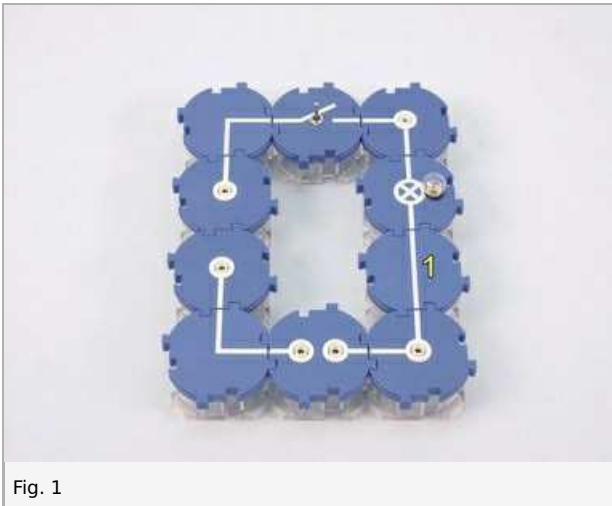
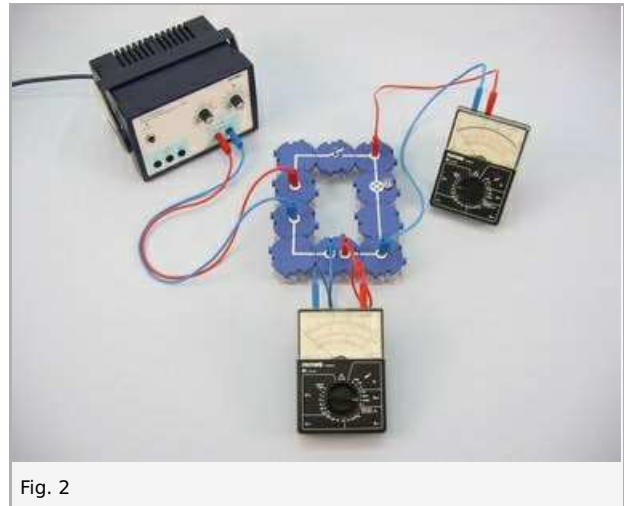
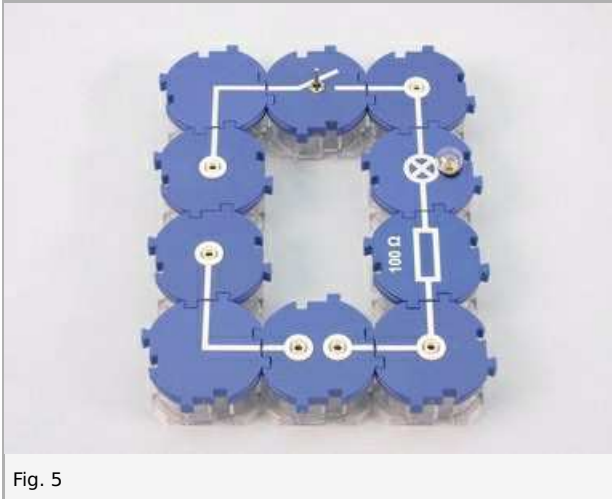
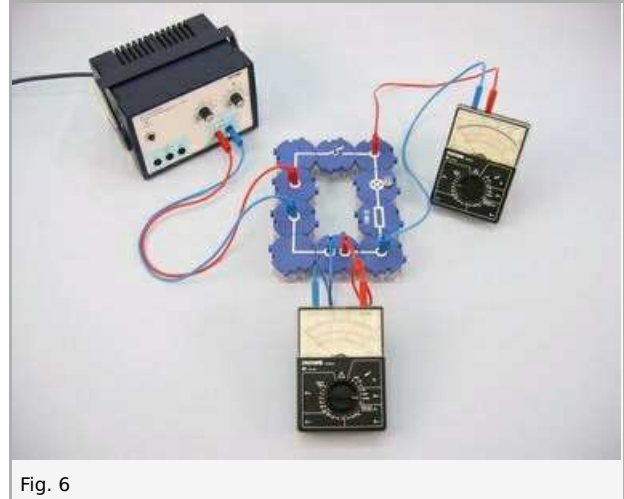

Fig. 1
Fig. 2
Fig. 5
Fig. 6
Set up the circuit as shown in Fig. 1. Connect the power supply (left), amperemeter (bottom) and a voltmeter (top) as seen in Fig. 2.
- Remove the straight connector module 1 (see Fig. 1) from the circuit and replace it with the resistor $R_V = 100 \Omega$ as shown in Fig. 5 and Fig. 6.